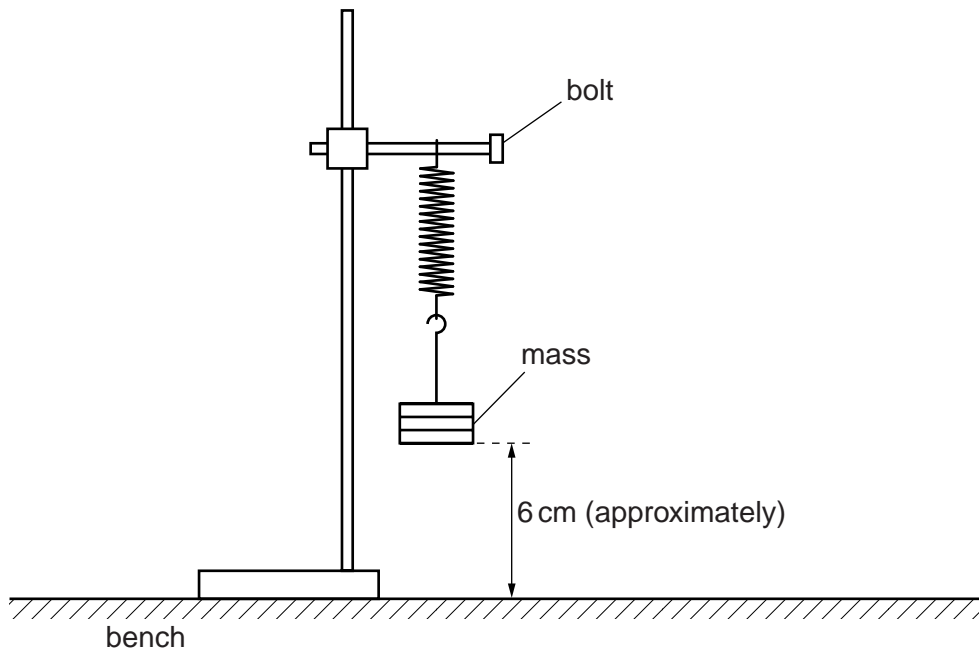

Fig. 2.3
- (c) (i) Lower the bolt until the bottom of the stationary mass is approximately 6 cm above the bench, as shown in Fig. 2.3.